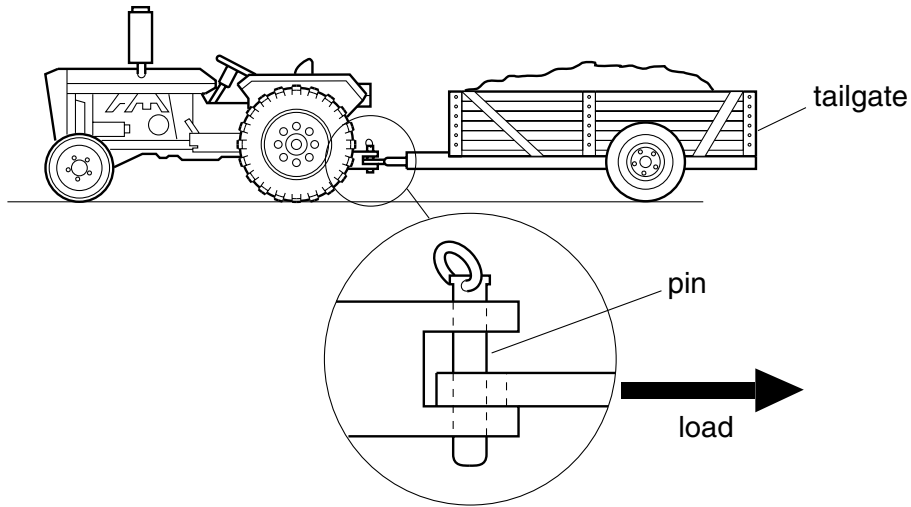

Fig. 1
- 1 Fig. 1 shows a tractor, its trailer and detail of the coupling used to connect the tractor and trailer.
2 A strain gauge is used to measure strain in the trailer coupling in Fig. 1.